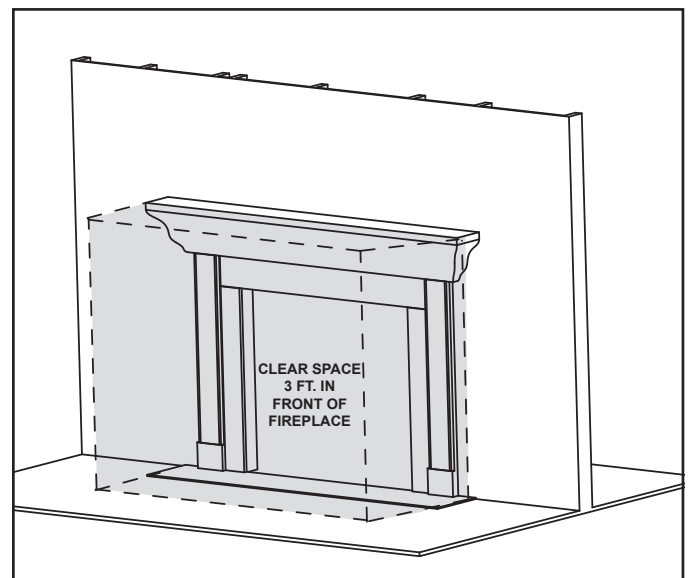

Figure 3.1 Clear Space Requirement
**WARNING! DO NOT place combustible objects in front of the fireplace or block louvers.** High temperatures may start a fire. See Figure 3.1.